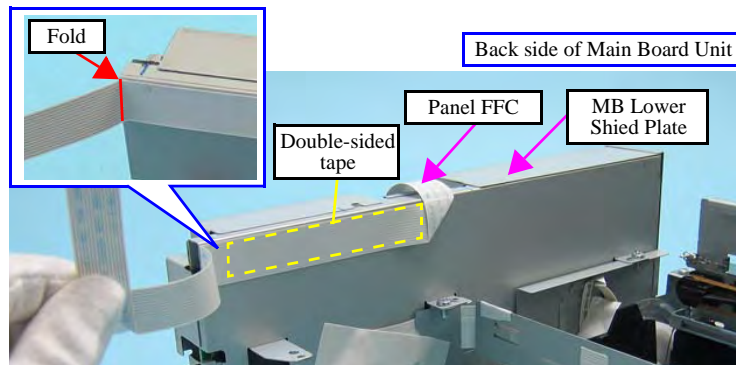

Figure 4-16. Routing the Panel FFC
- When routing the Panel FFC, make sure to align the fold of it to the front edge of the MB Lower Shield Plate and secure it with a double-sided tape as shown in Figure 4-16.